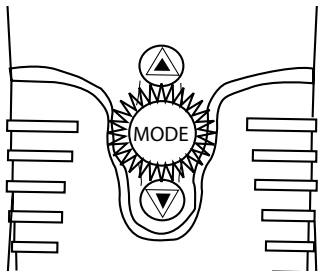
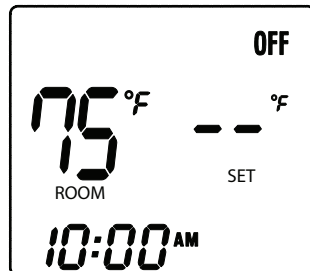

Fig. 3 Mode Button
Fig. 4 OFF Mode
To understand the operation of the transmitter, press and release the MODE button (Fig. 3) until the LCD screen reads OFF in the display (Fig. 4).
Step 3: Press the MODE button a third time to turn the appliance back **OFF** again as show in (Fig. 4).